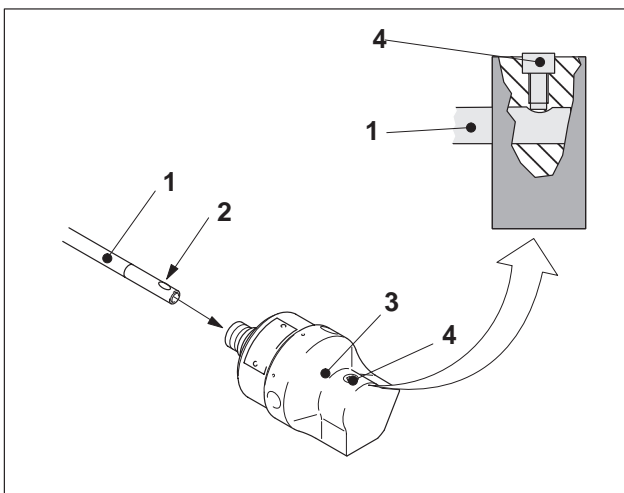

Fig. 3 Mounting the tube in the rotary tube
- 3 Insert the tube (Fig. 3/1) into the rotary tubes (Fig. 3/3) in such a way that the cheese-headed screw (Fig. 3/4) locks into the groove (Fig. 3/2) of the tube.
- 4 Tighten the cheese-headed screw (Fig. 3/4) in such a way that the tube (Fig. 3/1) is fixed.